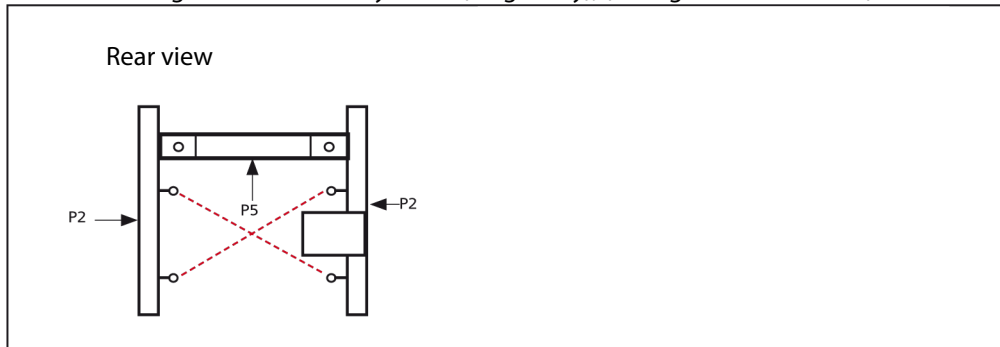

Figure 25
- Check the length between the eye nuts (diagonally), (see figure 25 - red lines)
- Attach both cables as shown in figure 25 (red dashed lines) and tighten the cables using the tensioners